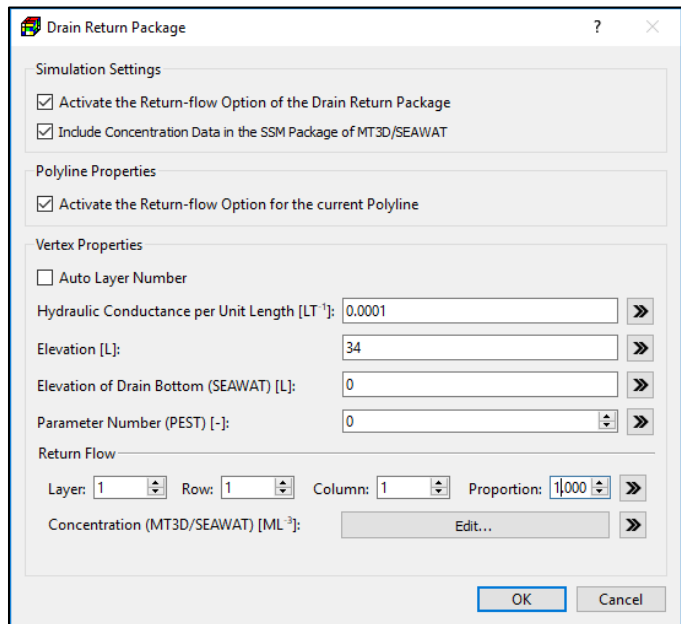

Figure 43. The Drain Return Package dialog box for specifying vertex/polyline properties
3. Polyline input method: Figure 43 shows the dialog box that is used to specify vertex/polyline properties.